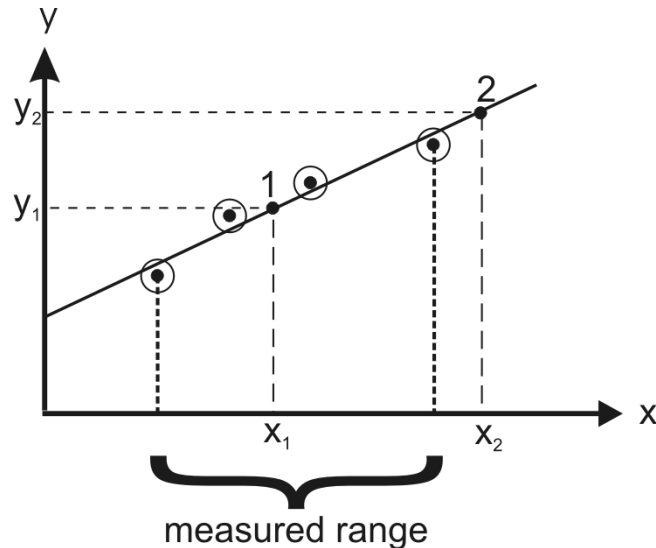

Fig.3 Interpolation and extrapolation.
1. A graph can be used to read off values for the dependent variable at values of the independent variable at which no measurement were made, like at x_1 and x_2 in **figure 3**.